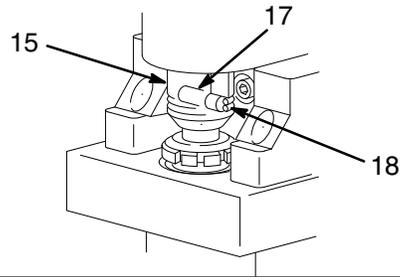

Fig. 24
1. Try to stop the pump with the piston rod (107) in its lowest position. To lower the piston rod manually, remove the shroud (4) and rotate the motor fan blades. Use a screwdriver to push the retaining spring (18) up and push out the pin (17). See Fig. 24.
3. Remove the motor shield (4).